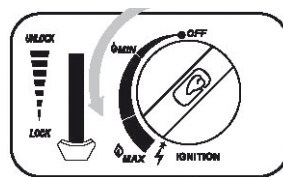

Fig. 2
4. Turn the gas regulator (10) all the way to the left (anti-clockwise) to the IGNITION position, so that the ignition clicks (fig. 2)